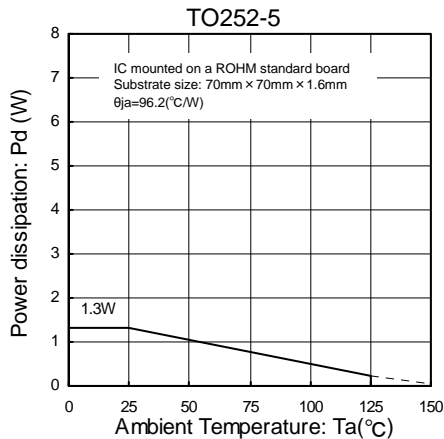

Fig.15
Refer to the heat mitigation characteristics illustrated in Figs. 15 ~ 18 when using the IC in an environment where $T_a \geq 25^\circ\text{C}$. The characteristics of the IC are greatly influenced by the operating temperature. If the temperature is in excess of the maximum junction temperature $T_{j\text{max}}$, the elements of the IC may be deteriorated or damaged. It is necessary to give sufficient consideration to the heat of the IC in view of two points, i.e., the protection of the IC from instantaneous damage and the maintenance of the reliability of the IC in long-time operation.
In order to protect the IC from thermal destruction, it is necessary to operate the IC not in excess of the maximum junction temperature $T_{j\text{max}}$. Fig. 15,16 illustrates the power dissipation/heat mitigation characteristics for the TO252 package. Operate the IC within the power dissipation P_d . The following method is used to calculate the power consumption P_c (W).